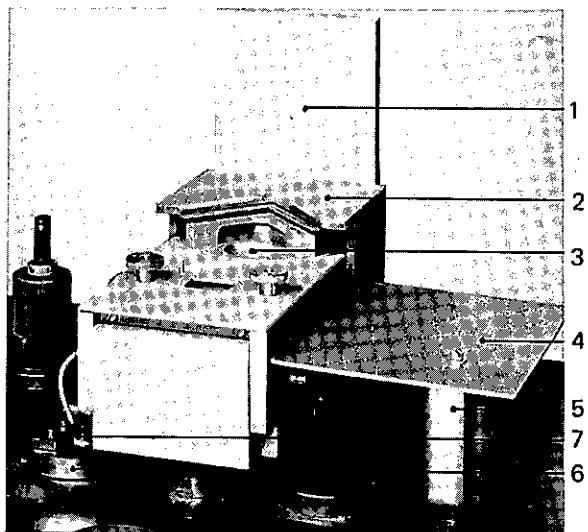

Fig. 13 Source complete with 4-way crucible
- l. The high voltage leads from the high voltage feedthrough to the source must be screened optically tight. The necessary sheet (Fig. 13, item 4) is supplied with the source. After installation, cut the sheet to exact size to avoid arc-overs during evaporation.
sary sheet (Fig. 13, item 4) is supplied with the source. After installation, cut the sheet to exact size to avoid arc-overs during evaporation.
- m. If there is sufficient space, bend the deflection (Fig. 13, item 1) about 90° backwards to crucible level. This will prolong the time intervals between the cleanings, particularly when larger amounts of material are evaporated (e.g. with pot crucible).
The high current lead-in (Fig. 13, item 6) acts as a current supply for the upper section of the anode (X-sweep). The lead-in must therefore be electrically insulated from the coating unit baseplate with 2 insulating plates, item 118 and 119 of the spare parts list BB 800 041 E / 6 and an insulating tube. If the underside of the coating unit baseplate is coated with an insulating protective film (anodised or brushed on), an earth line must be connected from the gun lead-in to the fixing angle 3 of the high current transformer. The connection from the lead-in to the anode is made with the installation material supplied, in accordance with the arrangement of the gun and high current lead-in. The coil current lead-in is mounted in the high current lead-in Fig. 13.
- c. Attach the high current transformer to the angle item 142 of the spare parts list BB 800 041 E / 6, so that the high current contact can be made. The Cu-strip must be clamped between the Al-angle and the transformer.